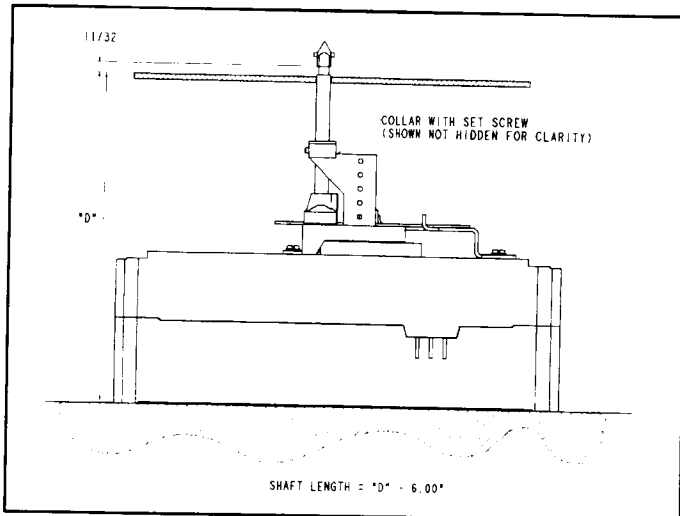

Fig. 3-1 Cutting Shaft to Length and Collar to Shaft
2. Mark shaft, measuring length beginning at the pointed end and cut to correct length. (Fig. 3-1)
3. After the hole is drilled, close enclosure cover allowing the shaft to stick through the opening. Check this dimension per Figure 3-1.